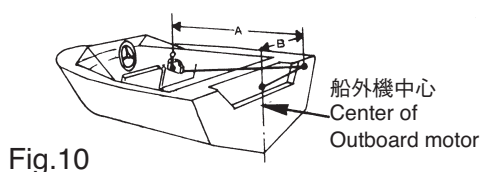

Fig.10
(2) リモコンボックスの長さ (Fig.10)
(2) Determining Remote Control Cable Length (Fig.10)
As a guideline of determining remote control cable length, its total length should be distances A and B (Fig.10), plus 300mm (1 foot). This length varies according to the type of a boat.